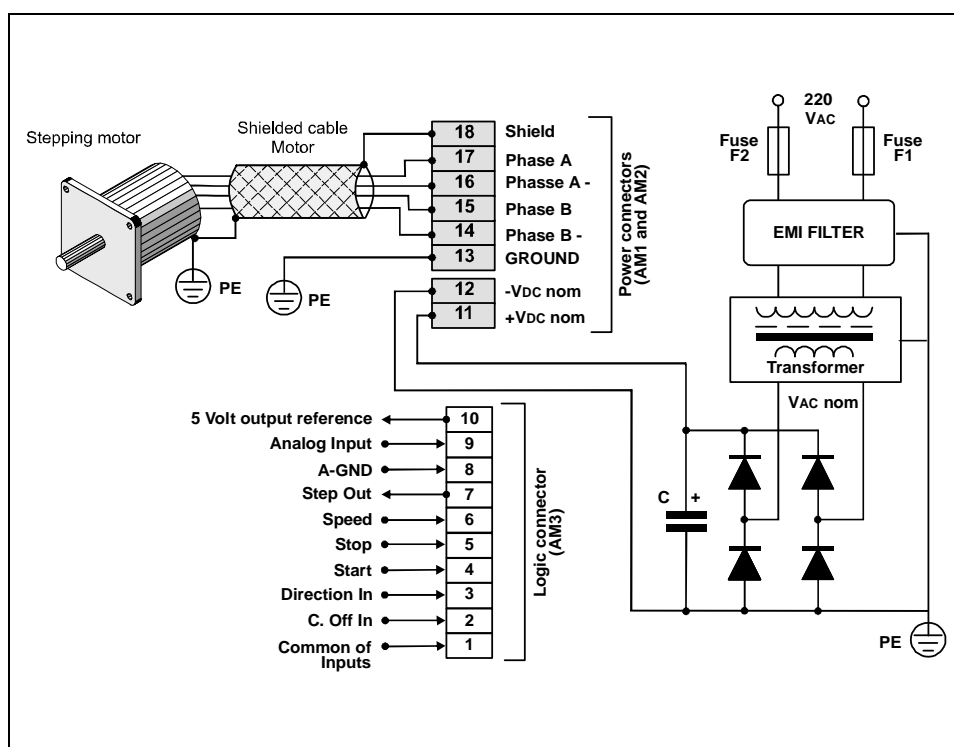

Figure 7 - Drive external connection scheme for ADW 04, ADW 04.V, ADW 06 and ADW 06.V drives.
7.4- **Branch circuit protection fuses F1 and F2 (see Figure 7) must be time delay of 10 Amp, at least 250 Volt with I^2t between 150 A²s and 400 A²s (for example Littelfuse 215010.P).**